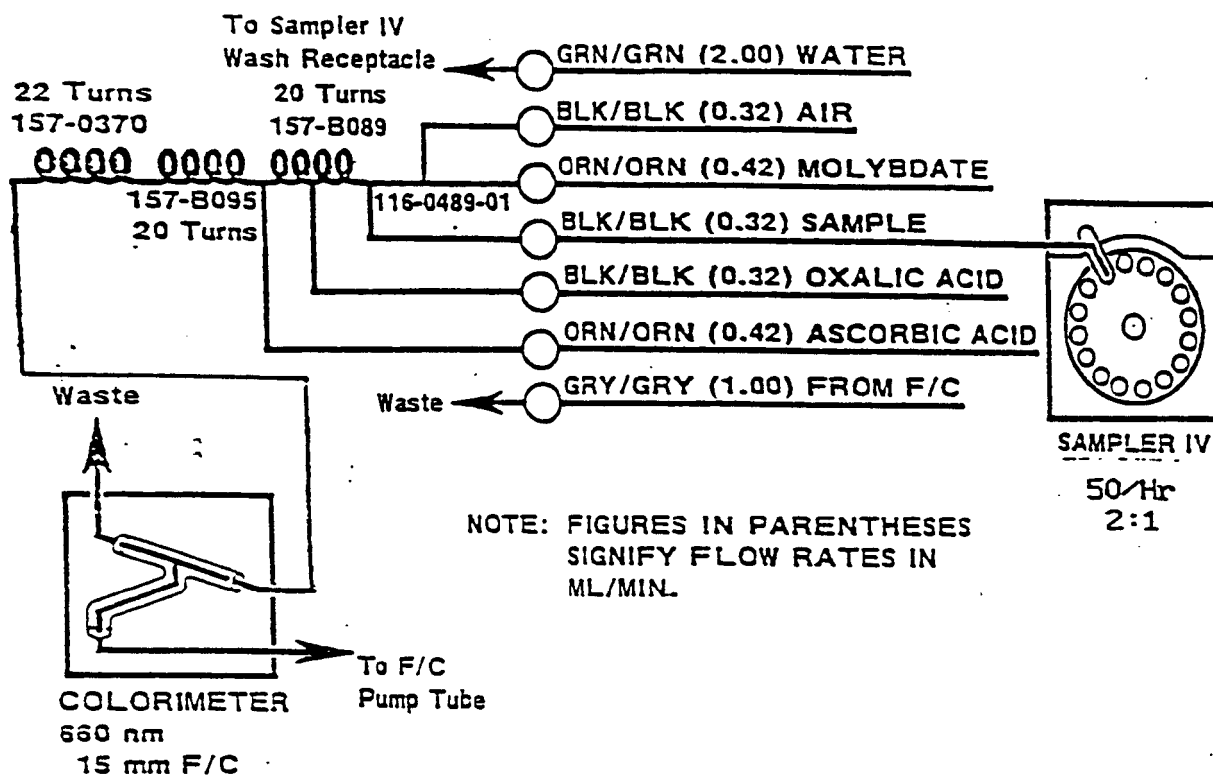

Figure 1. Manifold Set Up
- 7.1 Set up the manifold as shown in Figure 1.